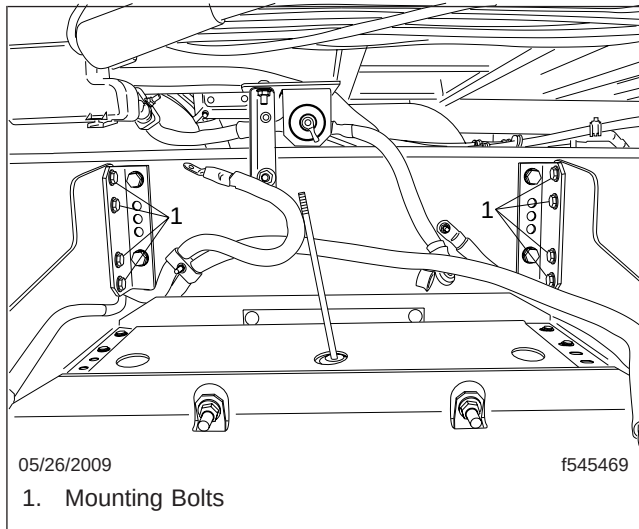

Fig. 4, Battery Box (mounted)
7. Remove the bolts that secure the battery box to the brackets on the frame rail. See Fig. 4.